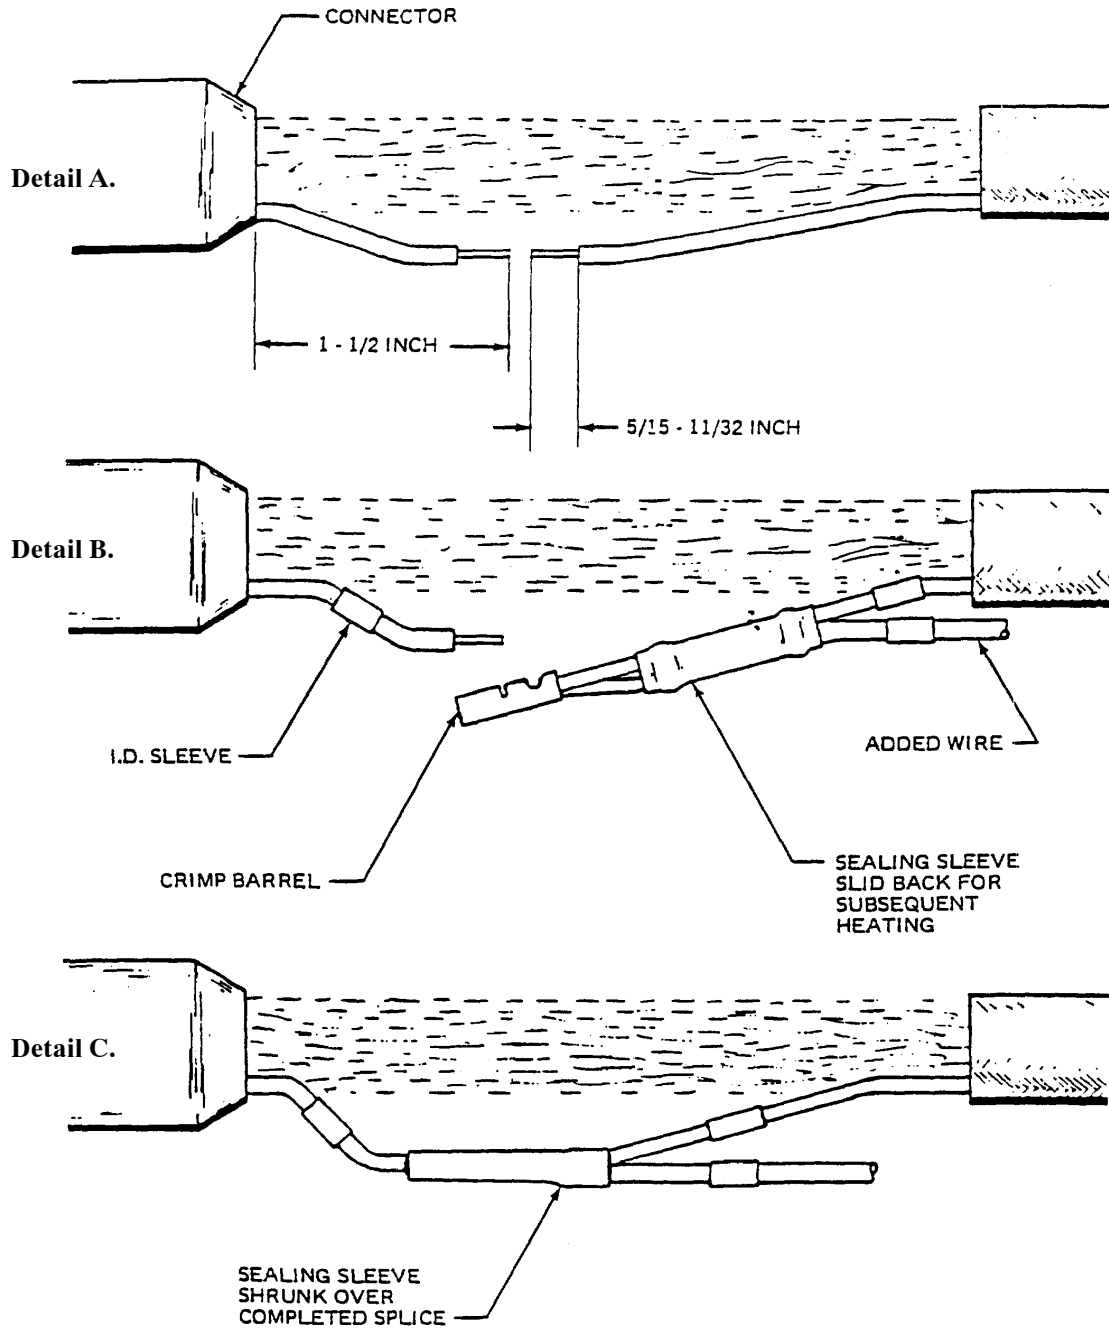

Figure 12. Adding Wire to Existing Wire Using Environmental Seals Splice
- d. Cut existing wire 1 1/2 inches from connector potting or connection insert (Figure 12, Detail A).
19. **Adding Wire To Existing Wire.** When it becomes necessary to add a wire to an existing wire in the harness, route added wire parallel and external to the existing harness. Secure added wires to the harness using lacing tape and proceed as follows (Figures 12 and 13).
- c. Slip the crimp barrel of the splice over the wires as shown in Figure 12, Detail B. Crimp as specified in WP 014 00.
- d. Shrink sleeve over crimp barrel as shown in Figure 12, Detail C.